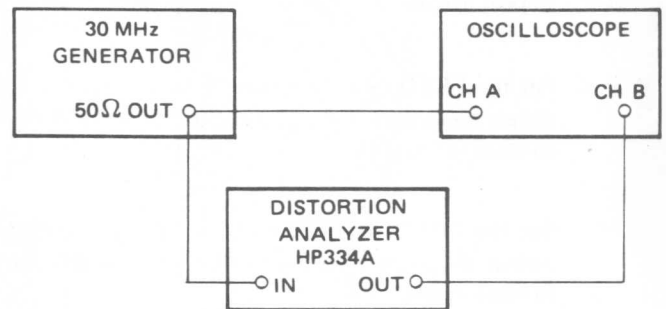

Figure 4-2. Distortion Test Setup
- Set the FREQ (Hz) switch to X 1K, the frequency dial to 1.0 and the WAVEFORM selector to . Connect the 50 Ω OUT (HI) to a distortion analyzer loaded with a 50 Ω terminator. (See Figure 4-2 for test setup.)